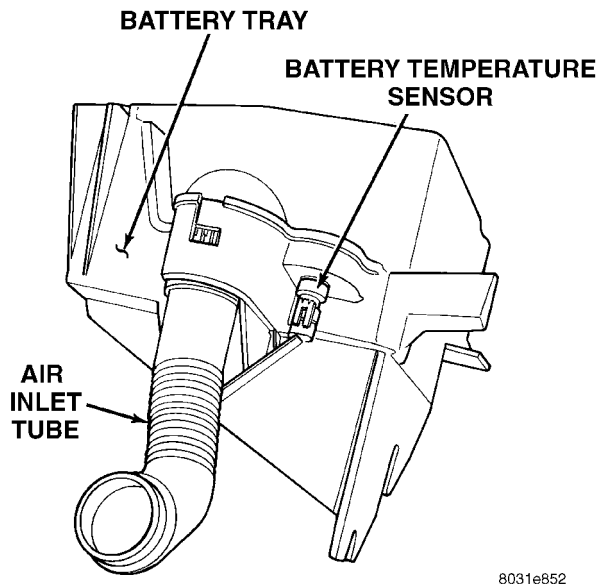

Fig. 76 Battery Temp. Sensor Connectors
(25) Inspect the connection at the battery temperature sensor (Fig. 76).